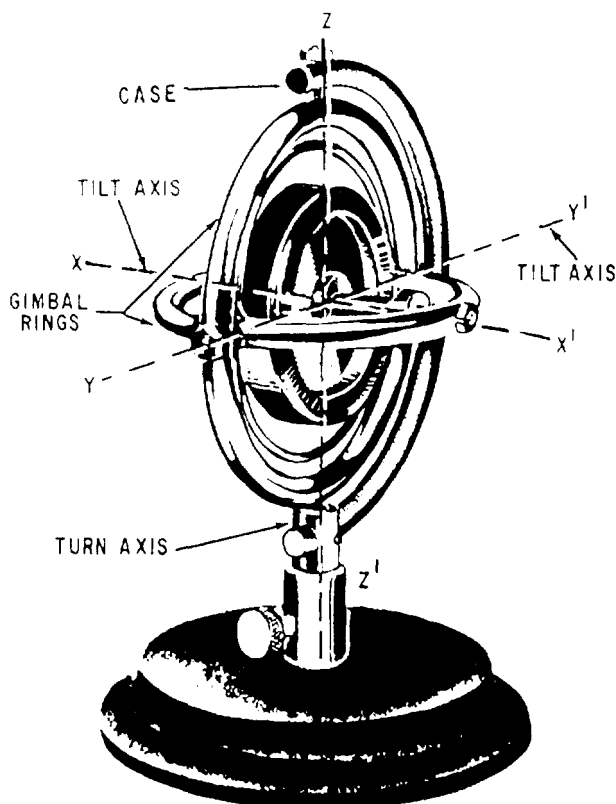

Figure 4-1.—The gyroscope.
movement. The spinning mass is provided by a heavy rotor. Figure 4-1 illustrates a free gyroscope. As you can see in the figure, the rotor axle is supported by two bearings in the horizontal ring. This ring is supported by two studs mounted in two bearings in the larger vertical ring. These two rings are called the inner gimbal and outer gimbal, respectively. The outer gimbal is then mounted with two studs and bearings to a larger frame called the case.
As you can see in figure 4-1, the mounting of the gimbals allows movement in three separate directions, or three degrees of freedom: (1) freedom to spin, (2) freedom to tilt, and (3) freedom to turn. The three degrees of freedom allow the rotor to assume any position within the case. The rotor is free to spin on its own axis, or the X axis, the first degree of freedom. The inner gimbal is free to tilt about the horizontal or Y axle,